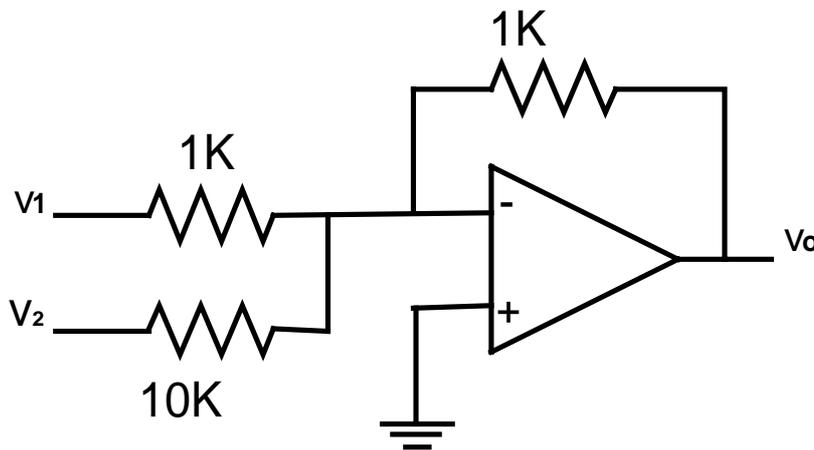

Figure 1: An Inverting Adder
2. Apply the signal to be investigated to the Input socket (10) of HM 5027.
3. Calibrate HM 5027 by adjusting the attenuator controls (12) and the level control (3), (within the admissible voltage range from 0.3 V to 50 V of the signal to be investigated); the instrument HM 5027 is fully calibrated when it reads 100 %.
4. Next, carry on the frequency alignment of the instrument. During the frequency alignment, the frequency of the integrated filter is tuned to the input signal frequency. First the FREQUENCY RANGE push button (3) are pressed to select the required range of from the following ranges: 20 Hz to 200 Hz, 200 Hz to 2 KHz, 2 KHz to 20 KHz. The continuous adjustment within the selected range is performed by means of knob (6) During the course of alignment. One of the two LEDs indicates the direction of frequency deviation of the integrated filter with respect to the input signal; i.e., when the LED on the right lights up, the adjustment knob must be turned counter- clockwise, until the LED goes off, and vice versa. When both LEDs are off, the alignment procedure is completed.
5. Select the desired range of distortion by pressing the appropriate push-button (7). In case of unknown magnitude of the distortion factor, the 100 % range should be selected first; otherwise the display will start flashing as soon as the full deflection value of the measurement range is exceeded. In case of insufficient resolution of the display, the next smaller range should be selected. The distortion factor is directly read out on the display in percent, requiring no further conversion. The read-out range extends from 99.9 % to 0.1 % or from 9.99 % to 0.01 % respectively.
7. Next, design & test an inverting adder circuit as shown in figure 1 below.